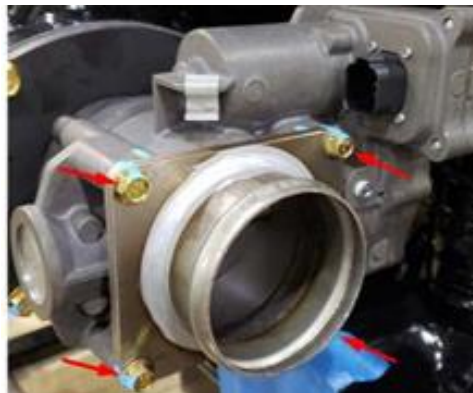

Figure 33
- c) Remove the inlet adapter from the throttle body (as shown in Figure 33). Make sure the O-ring from the throttle body does not stick to the inlet adapter; if it does, remove it.